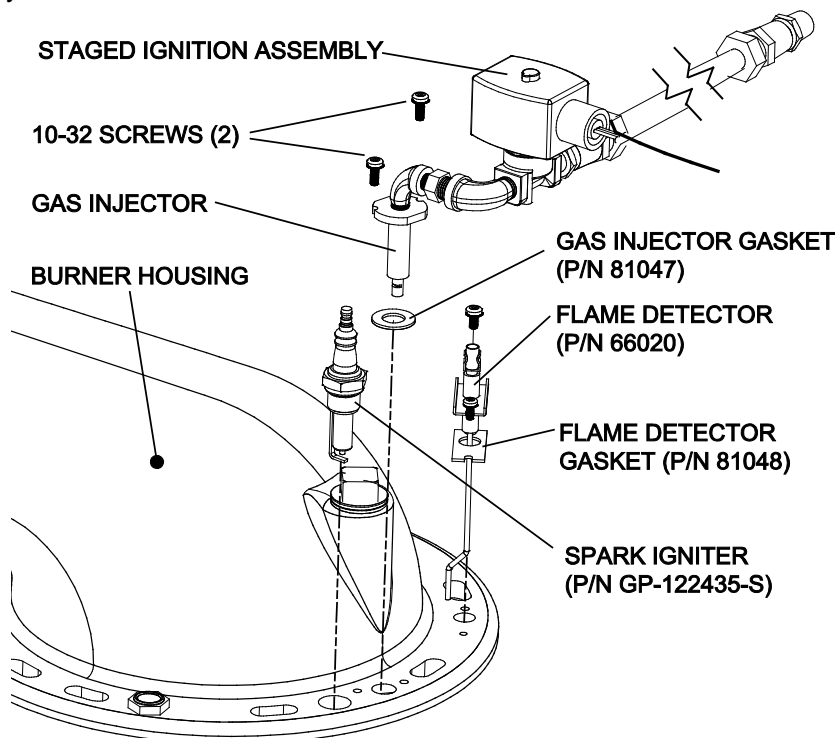

Figure 6: Partial Exploded View Showing Flame Detector, Spark Igniter, Gas Injector, and Staged Ignition Assembly on the Burner Housing Flange
2. Disconnect the lead wire from the Flame Detector (Figure 6). Remove the two (2) screws (#10-32 & #8-32) securing the flame detector to the burner housing. Remove the Flame Detector and underlying gasket. The Flame Detector and gasket will be replaced with new ones from the kit at reassembly.
1. Retrieve the new Gas Injector Gasket (P/N 81047) from the kit and position where Gas Injector enters the burner flange (Figure 6).
2. Secure the Gas Injector to the burner flange on top of the gasket using the two (2) 10-32 screws removed at disassembly.
2. Connect lead wire to the Flame Detector (Figure 6).
3. Attach igniter cable to the Spark Igniter assembly (Figure 6).